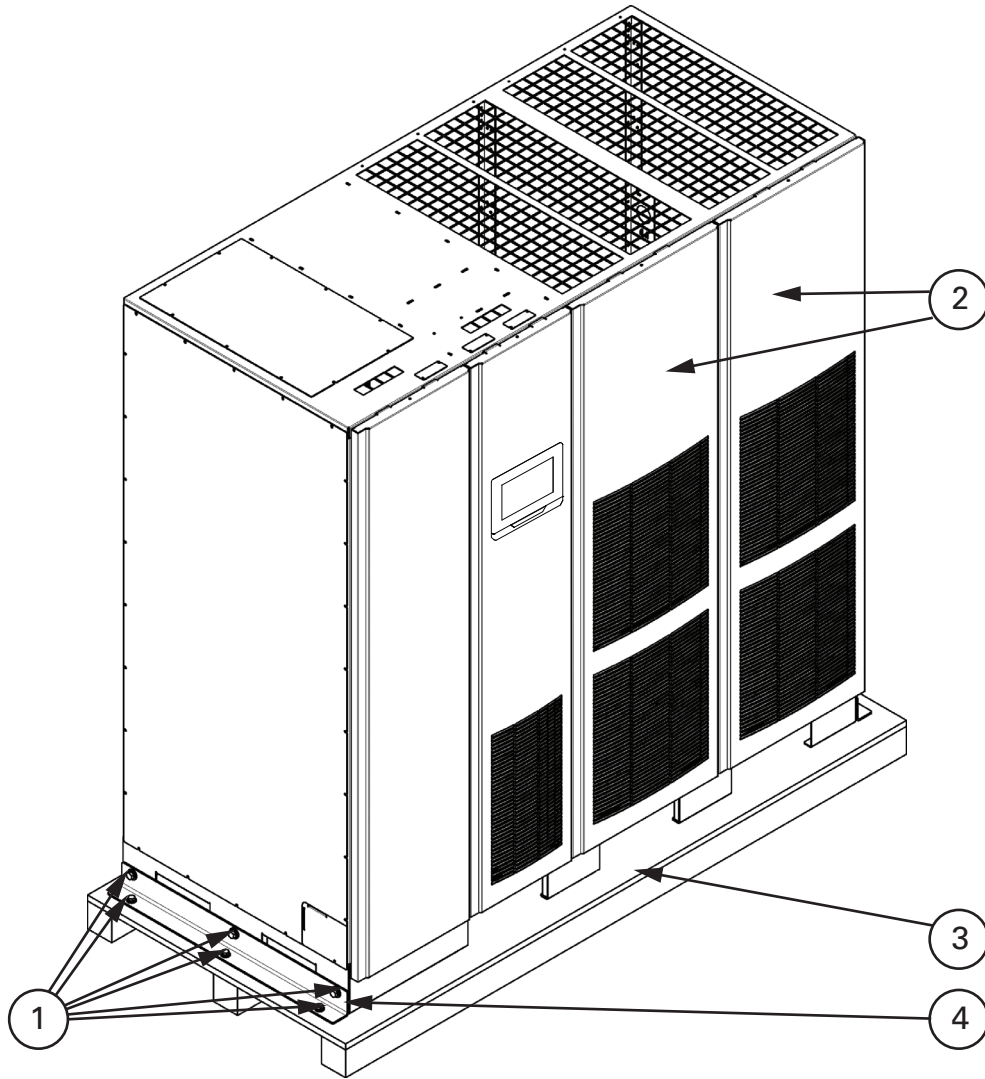

Figure 4-1. Removing left side shipping bracket, ISBM and FI-UPM
2. Remove the three bolts securing the left side shipping bracket to the cabinet and three bolts securing the bracket to the pallet (see Figure 4-1). Remove the left shipping bracket. If permanently mounting the cabinet, retain the shipping bracket and securing hardware for later use.
9. Using the retained hardware, reinstall the shipping brackets removed in Steps 2 and 3 to the left and right side of the UPS cabinet with the angle facing outward (see Figure 4-1 and Figure 4-2).